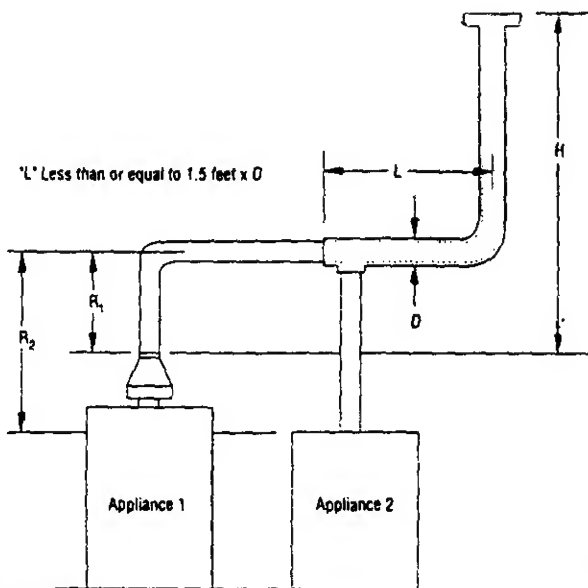

FIGURE 7
- 5) If vent connectors are combined prior to entering the common vent, the maximum common vent capacity listed in the common venting tables must be reduced by 10%, the equivalent of 1 (one) 90° elbow (0.90 x maximum common vent capacity). See Figure 7: The horizontal length of the common vent connect or manifold (L) should not exceed 1-1/2 feet (18 inches) for each inch of common vent connector manifold diameter.